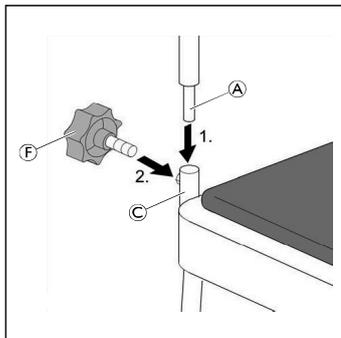

Fig. 2
- Guide the backrest pipe (A) on both sides, from the top into the seat frame (C) (Fig. 2).
- Turn the star head screw (F) one revolution from behind into the seat frame (Fig. 2).